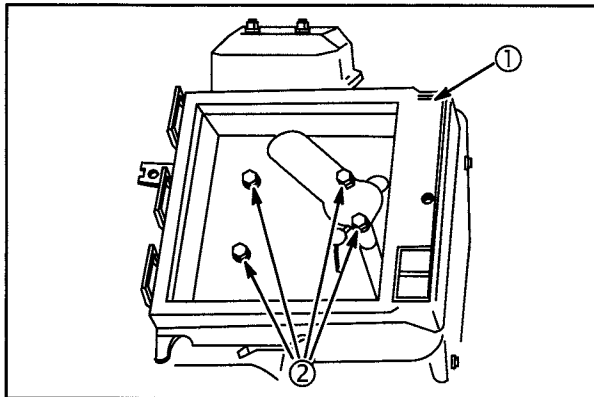

Fig. 4
**Early style: (Square cartridge), Fig. 4.**
2. Remove four screws (2).
3. Remove air cleaner base (1) and breather tube.